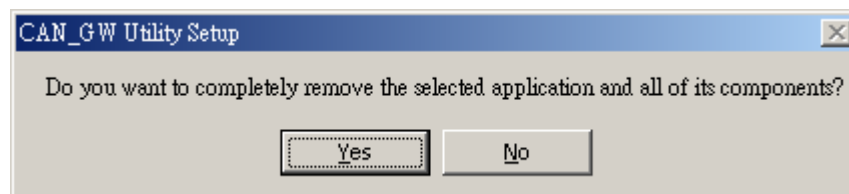

Fig 5-12. Click the button “Yes” to remove the software
Step 4: Click the “Next” button to remove the software as shown in Fig 5-12.